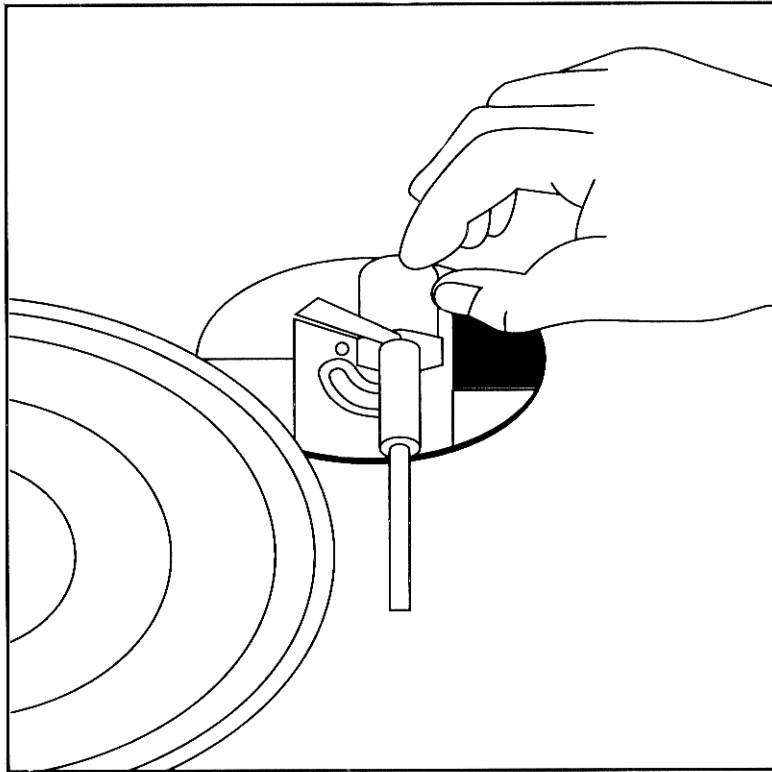

Figure 2
D. COUNTERWEIGHT INSTALL (See Fig. 2, Pg. 2)
1. Slide the **COUNTERWEIGHT (7)** onto the rear of the **TONE ARM (5)**.
2. Twist the **COUNTERWEIGHT (7)** lightly clockwise, to screw it onto the rear of the **TONE ARM (5)**.
E. ADJUSTING HORIZONTAL ZERO (0) BALANCE AND STYLUS PRESSURE